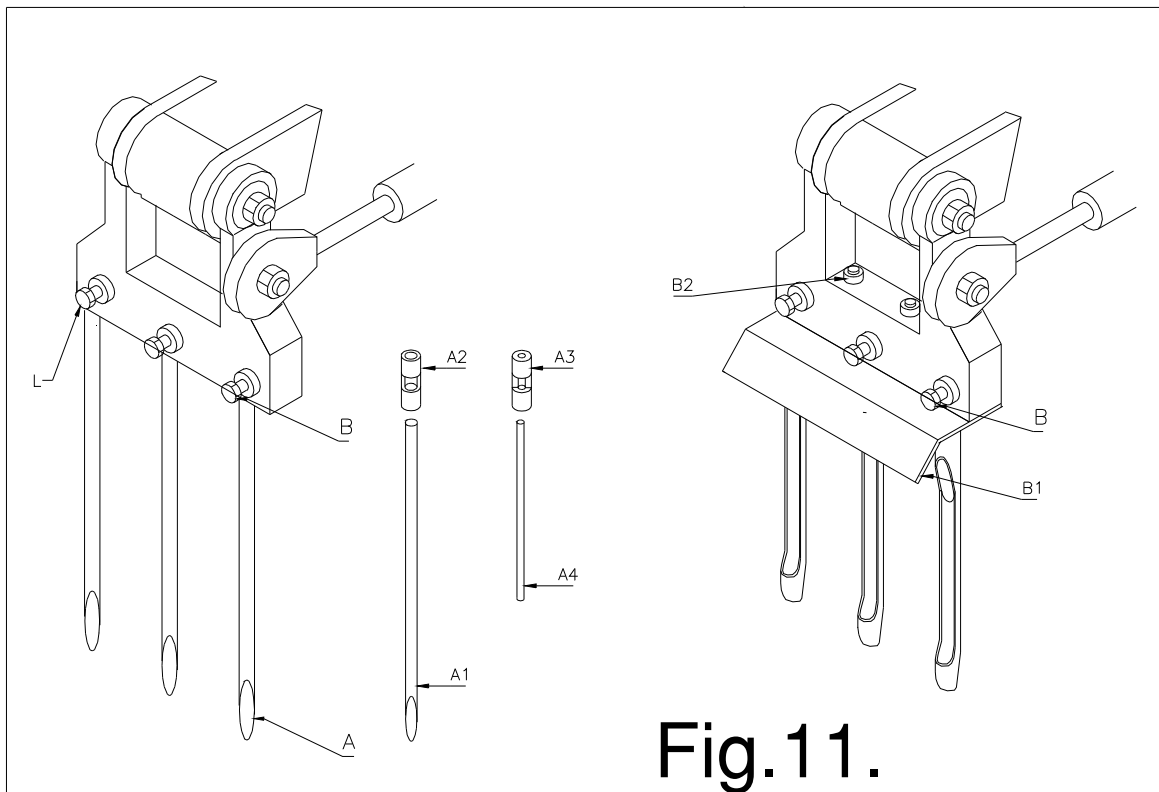

Fig.11.
9. Tighten and lock the nut according specifications (fig.11).
In fig.11. several tine combination are given. The tineholders have 3 x 12 mm (1/2") holes for adapting tines. The lock bolt L may be tightened till 40 Nm (30 lbs.ft.). If the tines still slip out of the adapter, grind a flat area to the tine.